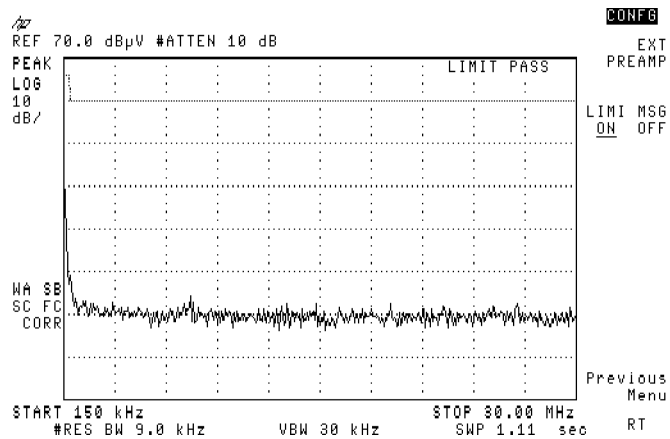

Figure 3-29. Limit-Line Pass/Fail Message
13. Press **LIMI MSG ON OFF**. (ON will be underlined.) See Figure 3-29.